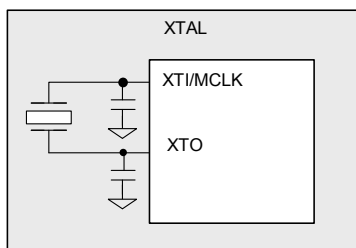

Figure 4-12. System Clocking—Crystal Mode
- Sourced from a crystal oscillator between XTI/MCLK and XTO pins (see Fig. 4-12), then used directly as MCLK_INT